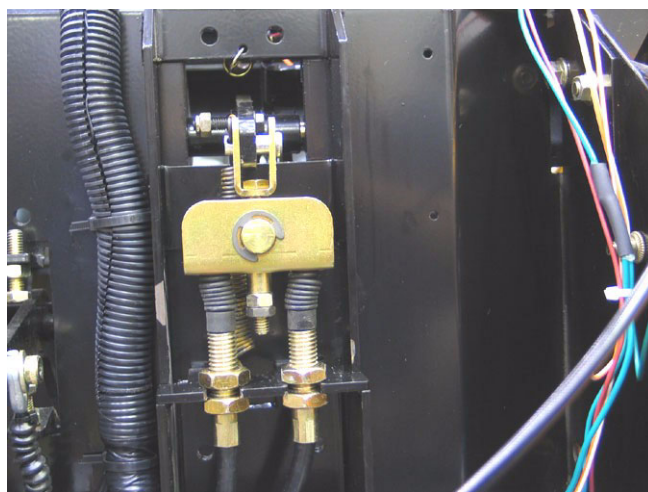

Figure 1.2
- 1.2. The brake pedal arm lifts up on the pull bolt that transmits force to the equalizer bracket. The equalizer bracket distributes the brake pedal force between the cores of two cables. See Figure 1.2.